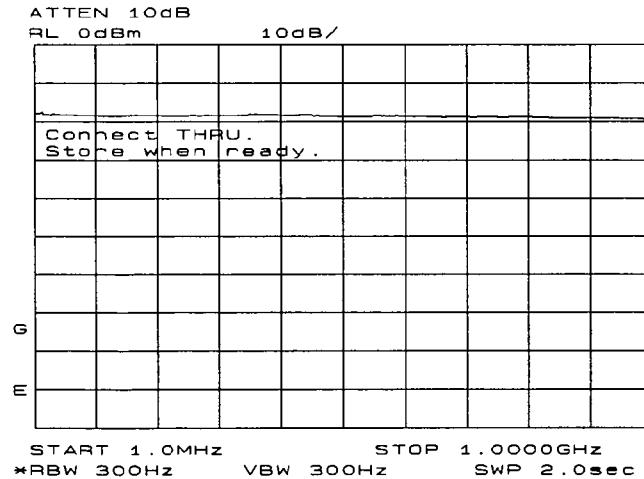
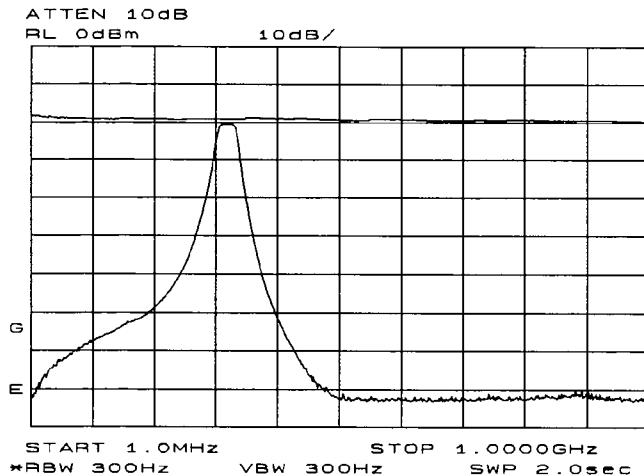

Figure 3-21. Guided calibration routines prompt the user.
Figure 3-22. The thru trace is displayed in trace B.
- Calibration in a transmission measurement is done using a through (thru). To calibrate using a thru, press **AUX CTRL**, **TRACKING GENERATOR**, **SOURCE CAL MENU**, **CAL THRU**. The guided calibration routine prompts you to connect the thru, as illustrated in Figure 3-21. Connect the thru, and press **STORE THRU** when ready. When **STORE THRU** is pushed, the thru trace is stored into trace B and into an internal memory location in the analyzer. The state information of the thru-calibration trace is stored in state register #9. This trace can be recalled for future use. Figure 3-22 shows what appears on-screen after the thru trace is stored. Trace B is in view, depicting the thru trace.